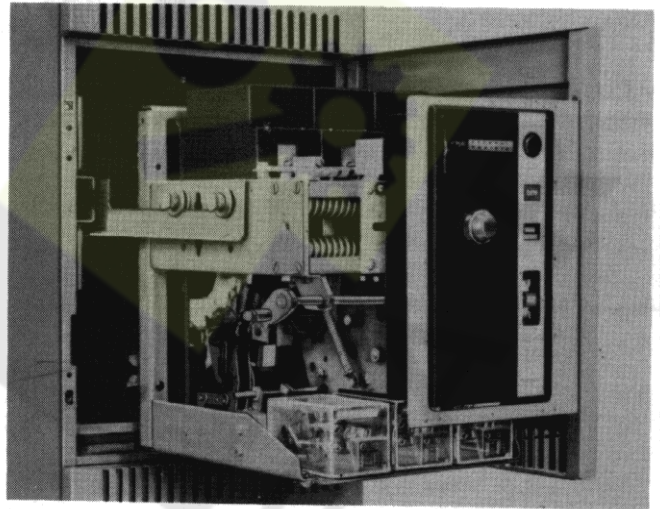

Figure 7
8. Place breaker **on** fully extended **moveable** rails. Make **sure** all four rollers **engage on** inside grooves (Outside grooves fit into stationary rails inside cell). (Figure 7).